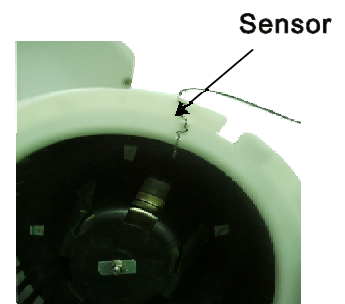

Fig 5
- 1.In order to remove the flow fan and the fan motor, the intake grille should be removed first( refer to the previous procedure). Release the sensor of inlet air.(Fig 5)